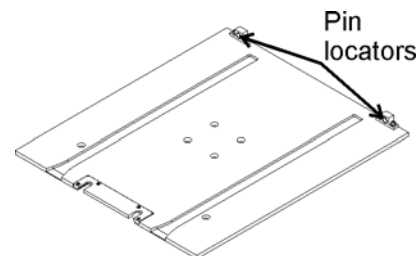

Figure 4-11. Pin Locators
5. While holding the center nut, tighten the nut closest to the platform back against the pin mounting block. Install the platform into the chamber. Note pin locators (Figure 4-11) on quick-release platform.